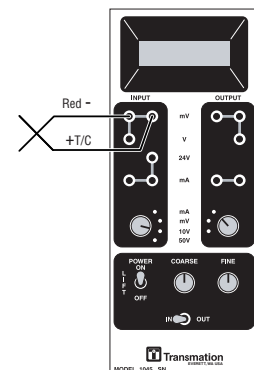

Figure 2-12b
1. Connect the T/C leads to the Model 1045's mV input terminals (see Figure 2-12b below). Connect the red T/C lead to the black (-) terminal and the color-coded T/C lead to the red (+) terminal.